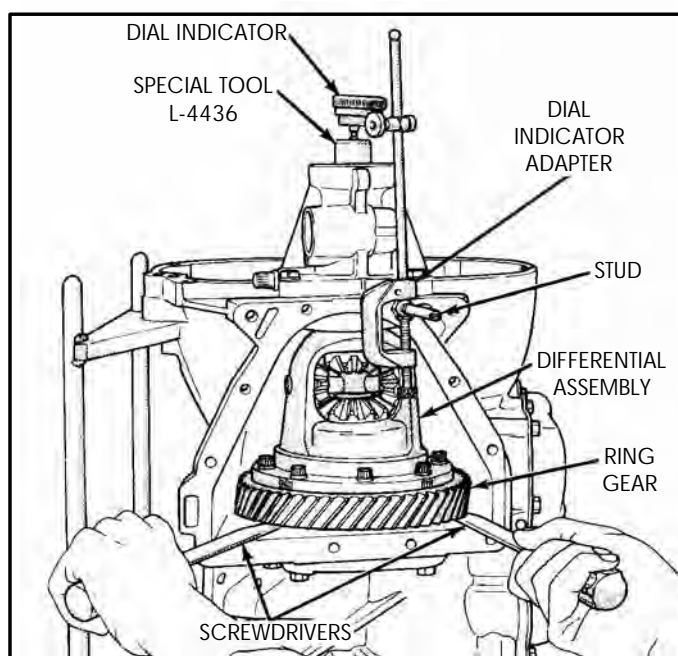

Figure 160
5. Install the differential assembly into transaxle case, as shown in Figure 160, and lubricate the bearings with light coat of oil.
8. Attach a dial indicator to the case, as shown in Figure 160, and zero dial indicator. Ensure that indicator plunger is on the special tool L-4436.
9. Using large screwdrivers on each side of ring gear, as shown in Figure 160, lift and check dial indicator for the amount of end play.